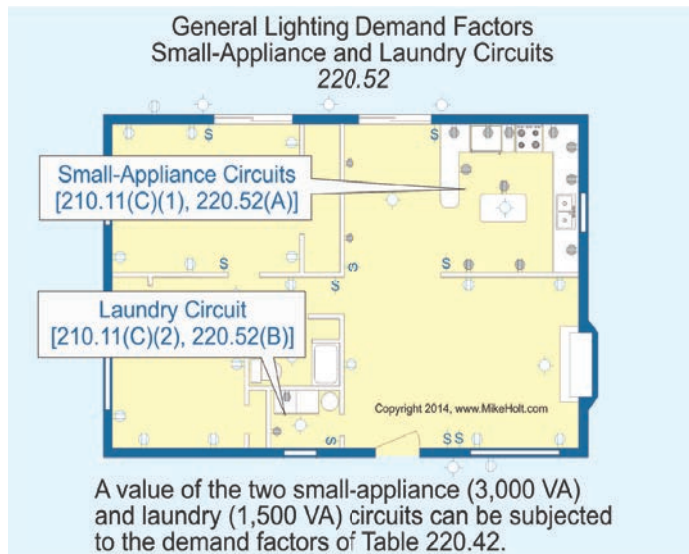

Figure 10–2
- (1) General lighting and receptacles at 3 VA per sq ft [220.12],
- (2) Two small-appliance circuits each at 1,500 VA [220.52(A)], and Figure 10–2
- (3) One laundry circuit at 1,500 VA [220.52(B)]. See Figure 10–2.